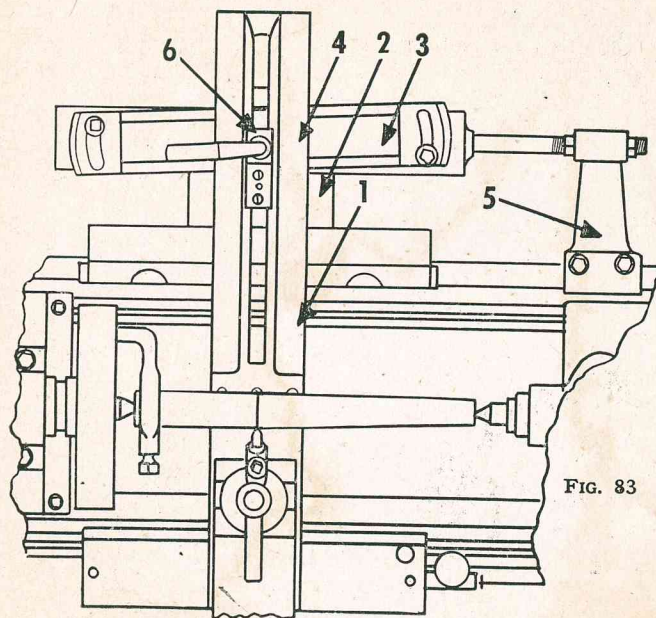

FIG. 83
Both types (Plain and Telescopic) consist of (Fig. 83): (1) backward extension of the cross slide that is bolted on machined pads that are ready-tapped to receive it. (2) A supporting bracket which is bolted to the back of the carriage saddle. (3) A compound slide of which the top swivels and has calibrations on the